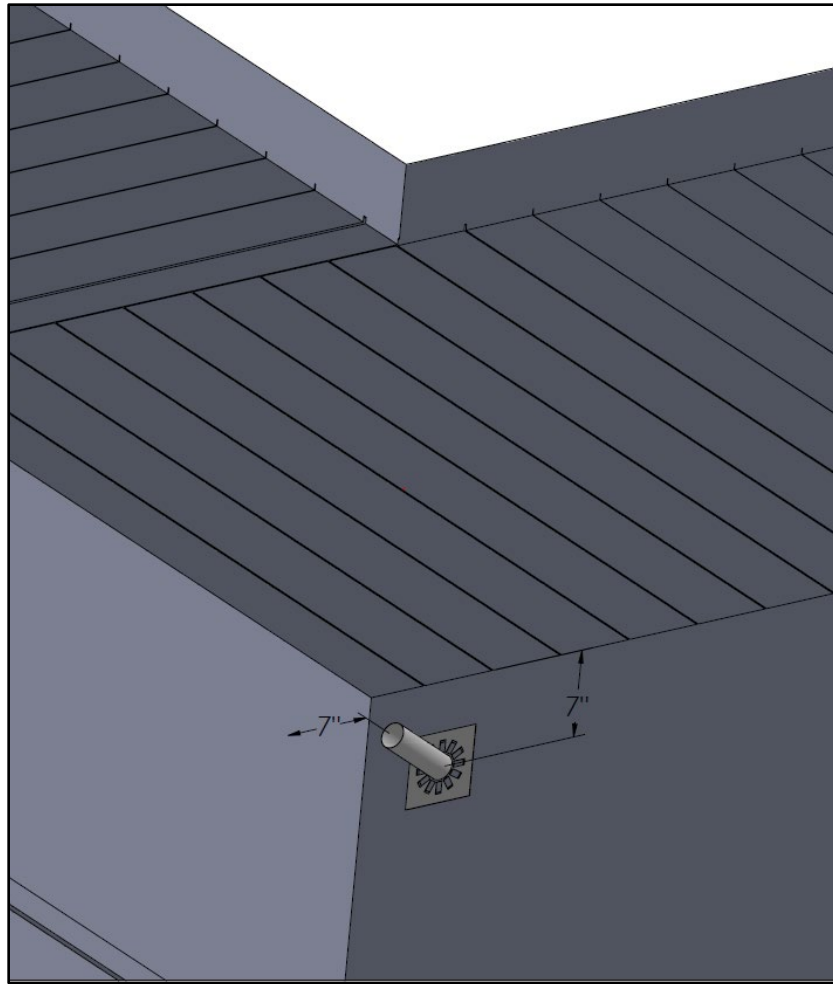
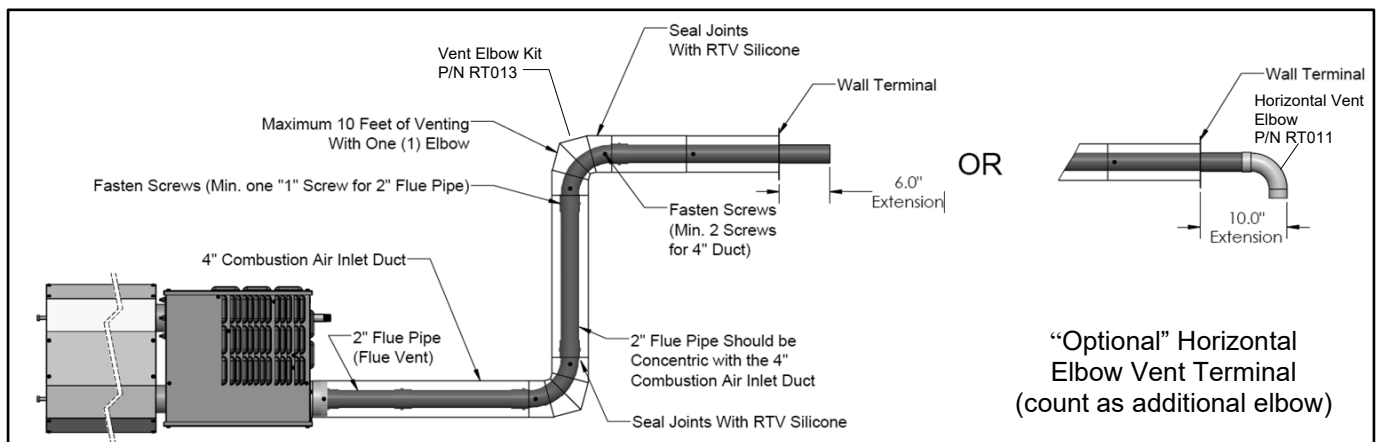
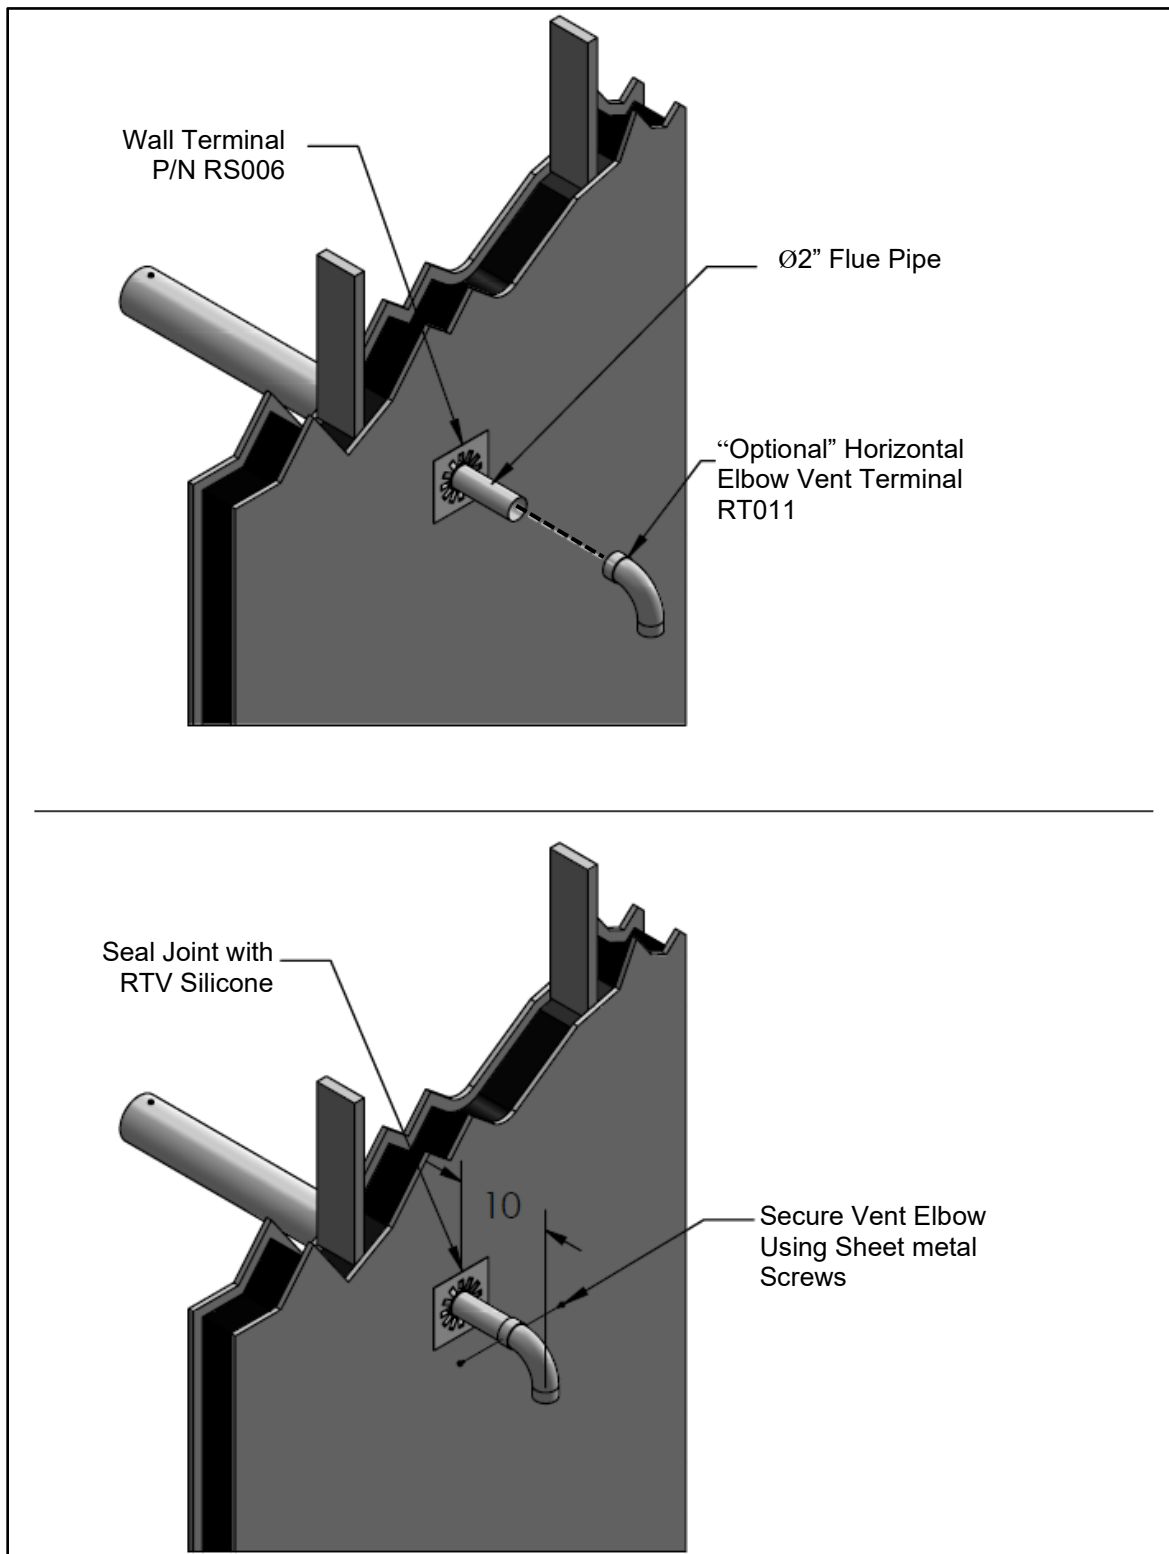

Figure 8: Minimum Clearance under an Eave
Figure 9: Venting / Combustion Air Ducting
Figure 10: Optional Horizontal Elbow Vent Terminal / Installation.
- For horizontal venting where an elbow is utilized an elbow kit (Part No. RT013) must be used, refer to Figure 9 for more details.
- The 2"-inch flue pipe should extend a minimum of 6" inches beyond the end of the 4" inch wall terminal (for horizontally vented heaters only see Figure 9). Where the vent is under an eave the 2" vent pipe must have a minimum clearance of 7" from the centerline of the vent to the bottom of the eave, refer to Figure 8.
- An optional “Horizontal Elbow Vent Terminal” kit for horizontal venting is also available; refer to Figure 9 and Figure 10.
- The 2"-inch flue vent is inside (concentric with) the 4"-inch combustion air inlet duct. Each of the former must be seamless and all joints must be fastened with screws and sealed with GE RTV-106 high temperature sealant (or equivalent) refer to Figure 9. The exposed 4" combustion air intake pipe is zero clearance throughout its length.
The GRT Models are approved to be used with an Elbow as a Horizontal Vent Terminal see Figure 10 for installation details.